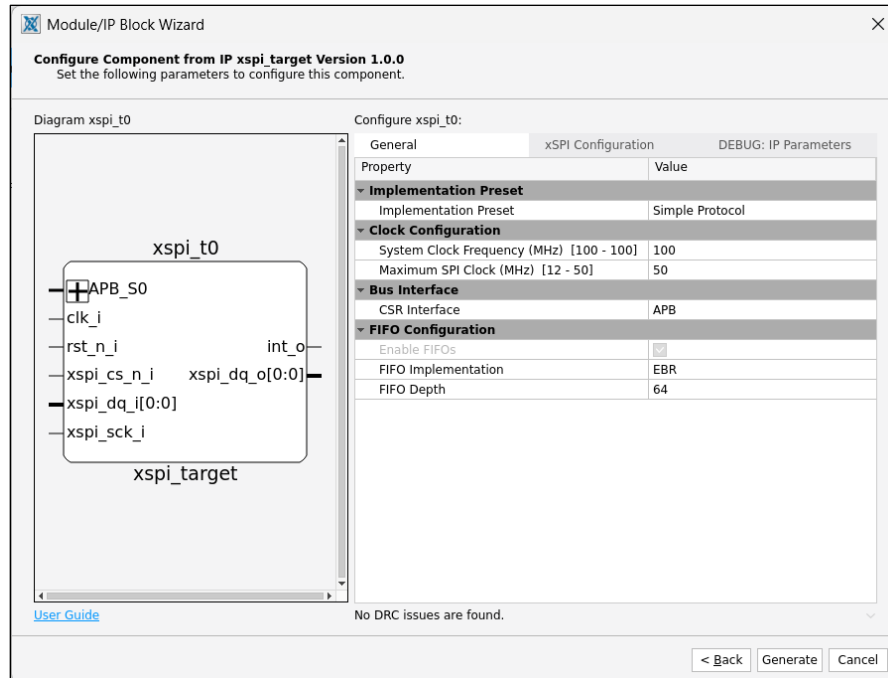

Figure 7.2. IP Configuration
5. Customize the selected xSPI Target IP using drop-down lists and check boxes. Figure 7.2 shows an example configuration of the xSPI Target IP. For details on the configuration options, refer to the IP Parameter Description section.